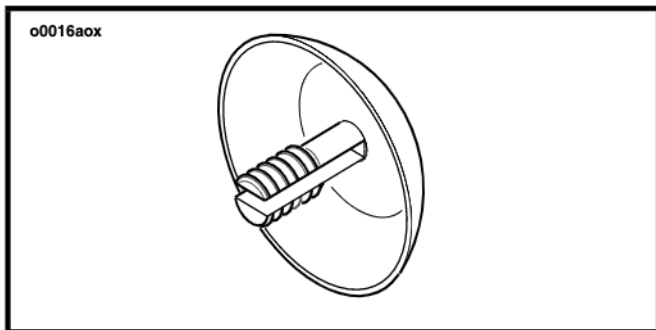

Figure 29. Seat mounting hole plug
3. See Figure 29. Under the passenger seat is a chrome plug on the seat frame.